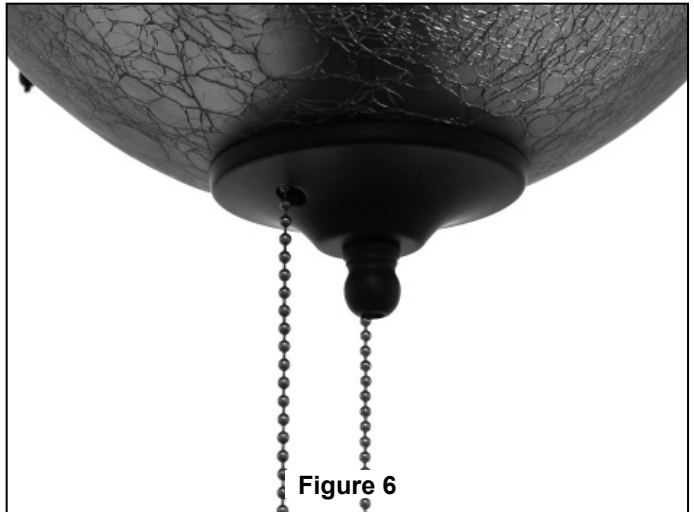

Figure 6
6. Install and secure the glass bowl with bowl cap and finial nut, do not over tighten. (Figure 6)